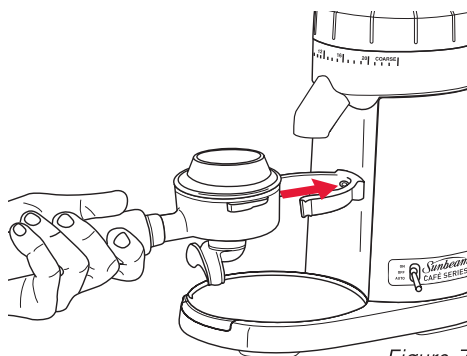

Figure 7
13. To grind coffee, press the group handle against the button located in the centre of the group handle cradle, see Figure 7.